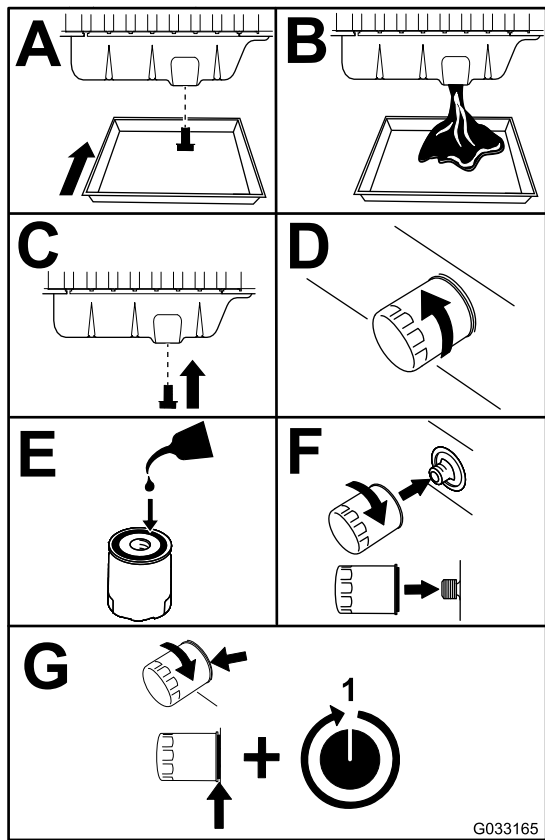

Figure 59
3. Replace the engine oil and filter (Figure 59).